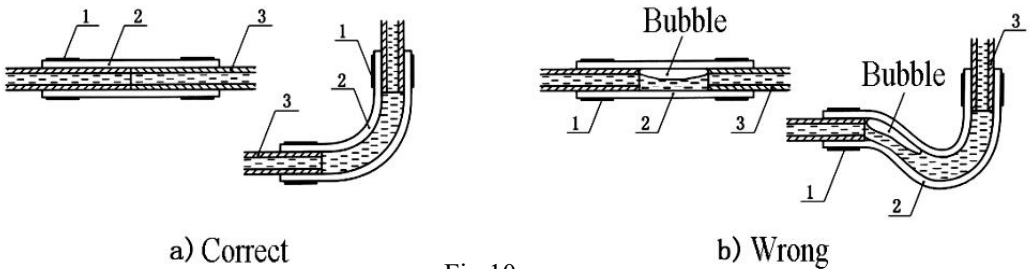

Fig.10
4.5.5 Connect fuel pipe, fuel pump, and fuel inlet pipe of the heater and fuel extractor with fuel pipe joint which made of rubber. The connecting place shall be tight without any gap (as shown in Fig. 10). Therefore, the ends of the fuel pipe shall be cut off evenly with a sharp blade to make smooth ends.